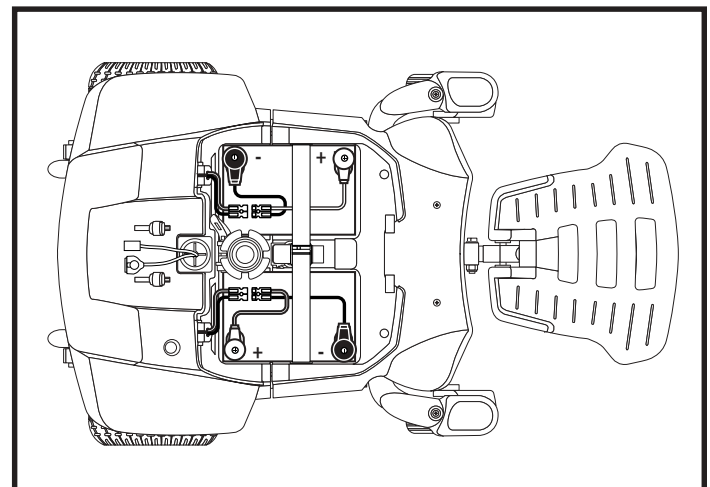

Figure 19. Battery Orientation
5. Place the new batteries with the terminals facing out as shown in figure 19.